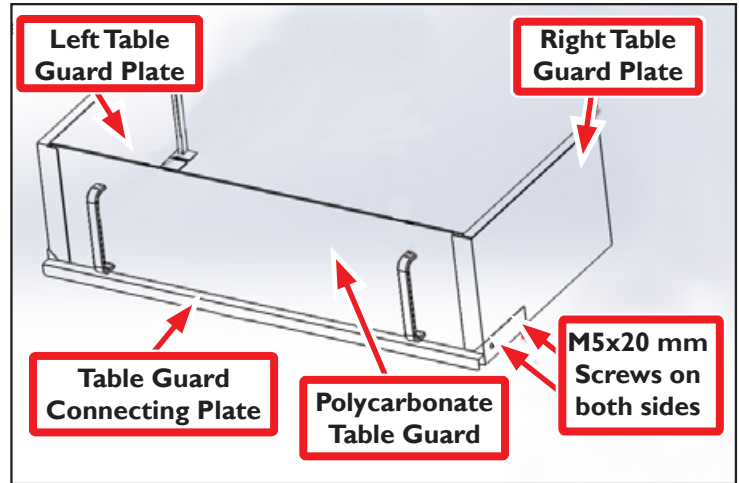

Figure 14
2. Insert *Left Table Guard Plate* and *Right Table Guard Plate* inside *Table Guard Connecting Plate*; fasten with four *M5 x 20 mm Screws* as shown in **Figure 14**.
3. Slide *Polycarbonate Table Guard* into slots on guard plates (see **Figure 14**).